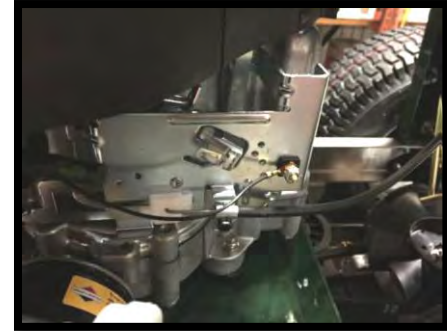

FIGURE 4.
- Clean carb linkage, choke control, and governor spring. Blow off the area with air (brake cleaner works as well) and then using a DRY LUBRICANT work the linkage back and forth (FIGURE 4)